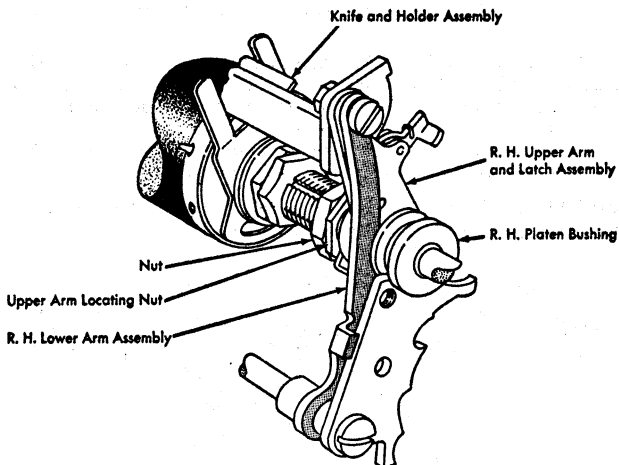

Figure 1. R. H. Platen Bushing and Lower Arm Assembly (Latched Down Position)
- This is accomplished by having the knife and holder assembly connected to the platen shaft by the right and left upper arm and latch assemblies, and to the actuating shaft by the right and left lower arm assemblies in such a manner as to rotate it about the platen in a fixed arc when the platen is being raised (Figure 1).
adjusted horizontally along the platen shaft to obtain a minimum clearance between the right platen bushing and the lower arm assembly so that the lower arm will not bind on the left edge of the right platen bushing, when the platen is in its latched down position (Figure 1).